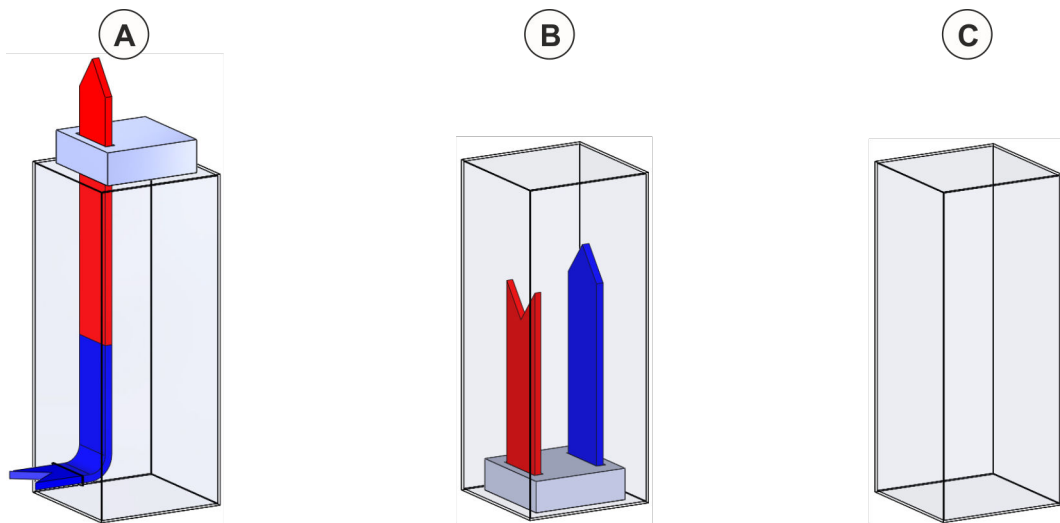

Fig. 15: Cooling air circuit switch cabinet
- Operation only in closed cabinets. If cooling units are installed, make sure that no air exchange with the ambient air takes place (Fig. 15).